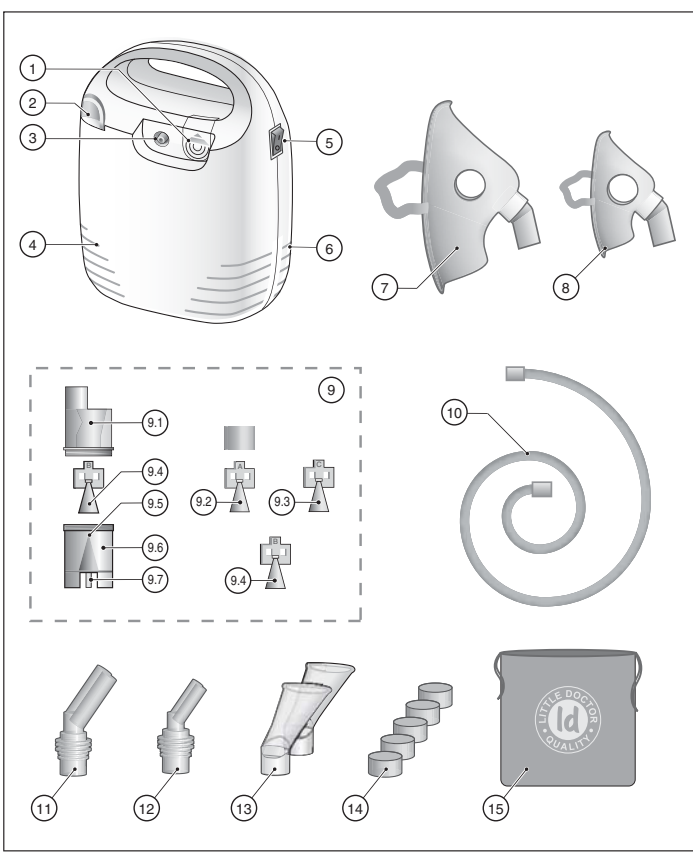

fig.1 | rys.1 | 1. ábra | fig.1 | рис.1
2. MAIN PARTS AND COMPONENTS (Fig.1)